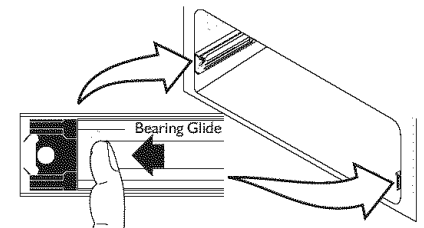

Figure 2
1. Pull the bearing glides to the front of the chassis glide (See Figure 2).